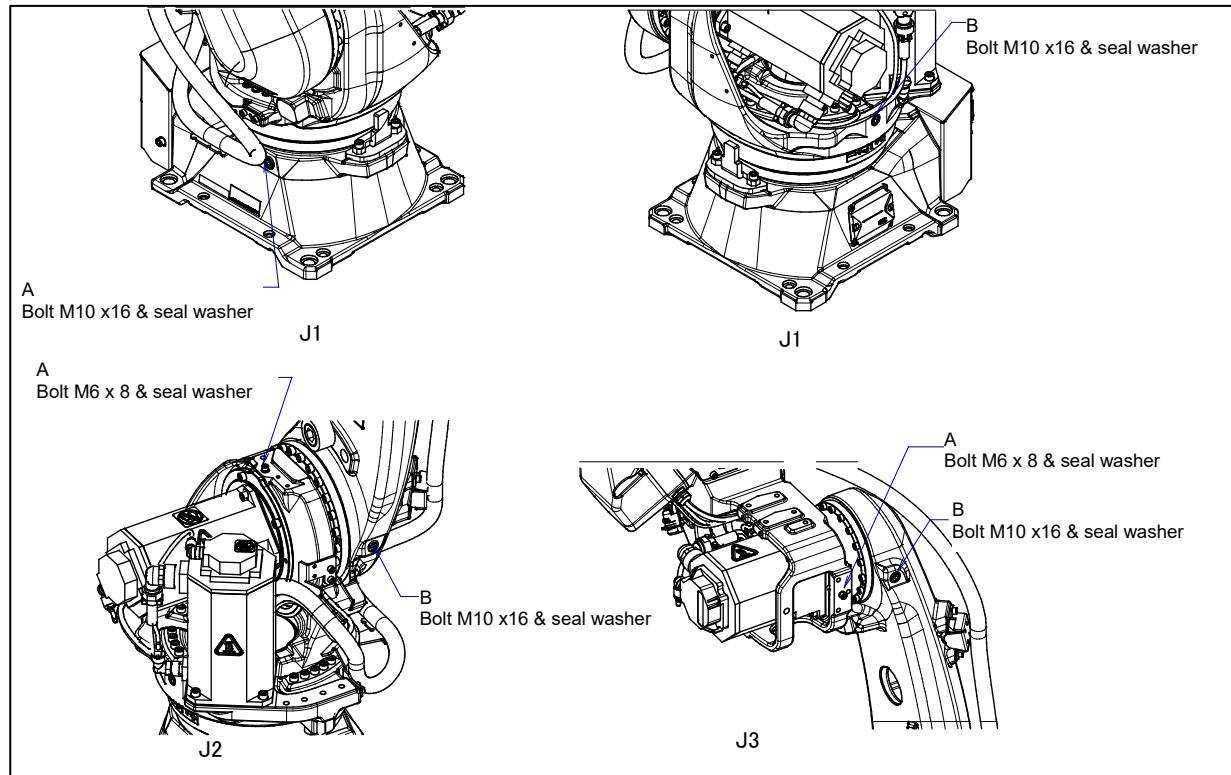

Fig. 7.3.2.3 (a) Oiling point of J1/J2/J3-axis reducer
- 2 According to Fig. 7.3.2.3 (b) to (d), install the attached adapter (A290-7228-X327 for M6 or A290-7228-X328 for M10) on the oil inlet and the ventilator hole. Then install the oil injection nipple (A05B-1224-K006) to the ventilator hole.
- 3 Confirm the valve of the oil injection nipple with valve is open, according to Fig. 7.3.2.3 (b) to (d), supply oil by using oil injection gun (A05B-1221-K005). If oil comes out from the upper side ventilator hole, stop supplying oil, close the valve of the oil injection nipple, then remove the oil gun.